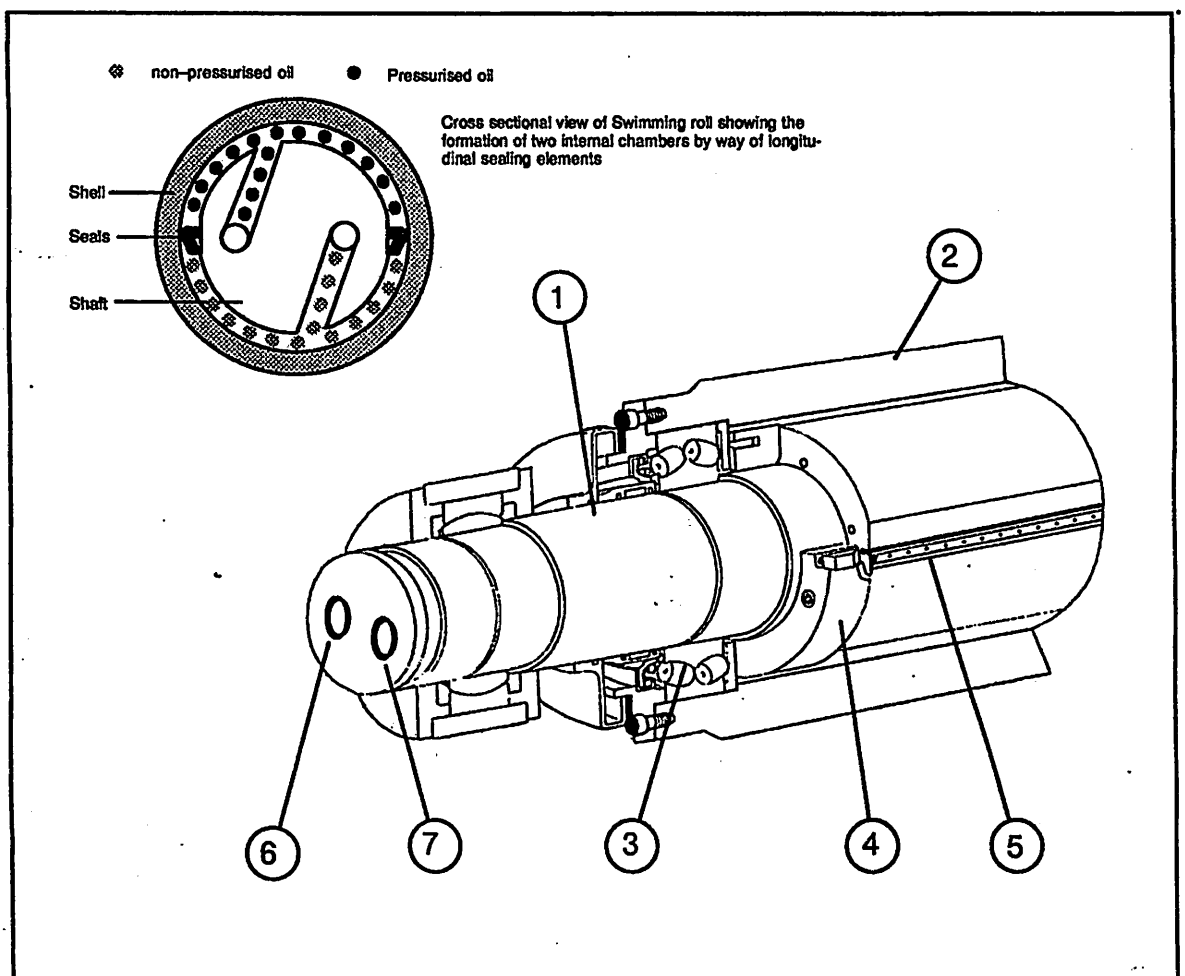

Fig 1
2. Construction and basic principles of the Swimming roll (Fig 1)